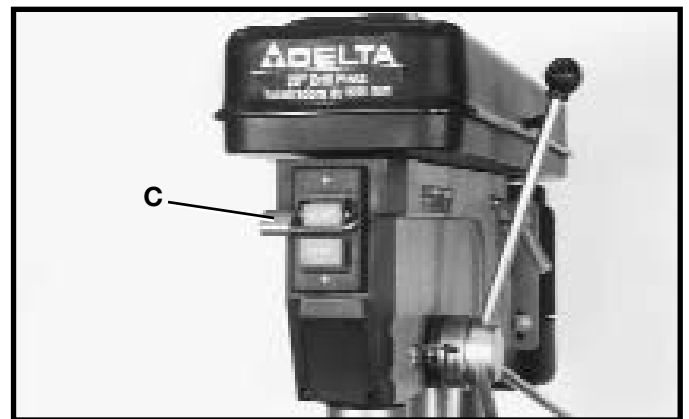

Fig. 24
IMPORTANT: When the machine is not in use, the switch should be locked in the "OFF" position using a padlock (C) Fig. 24, (with 3/16 diameter shackle) through the two holes in the switch plate, as shown in Fig. 24. NOTE: Padlock shown is available as accessory Model 50-325.